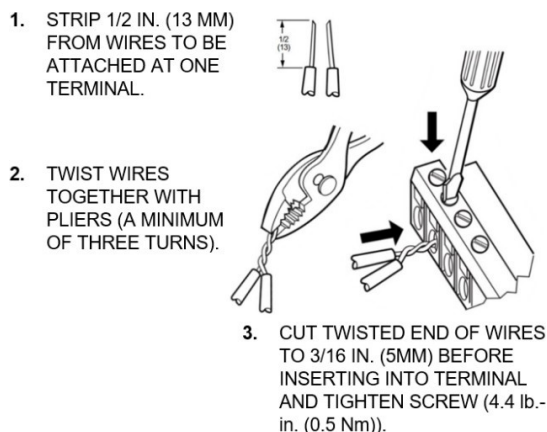

Figure 10. Attaching two or more wires at terminal block
When attaching two or more wires to the same terminal, other than 14 AWG (2.0 mm²), be sure to twist them together. Deviation from this rule can result in improper electrical contact, see Figure. 10 below.
- If two or more wires are being inserted into one terminal location, twist the wires together a minimum of three turns before inserting them, see Figure. 10 below.